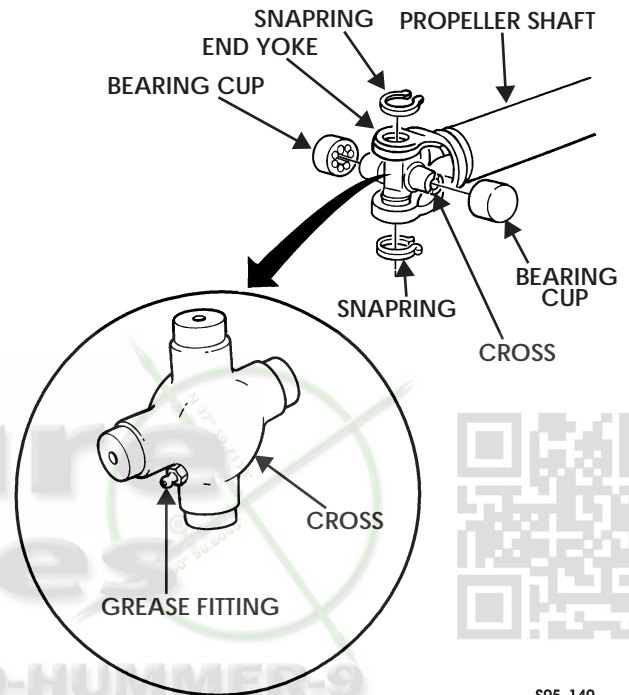

Figure 5-196: Universal Joint
1. Inspect propeller shaft for cracks and dents (Figure 5-196).
2. Remove grease fitting from cross (Figure 5-196).
7. Press bearing cup out of yoke and remove bearing cup from cross (Figure 5-196).
9. Install grease fitting into cross (Figure 5-196).